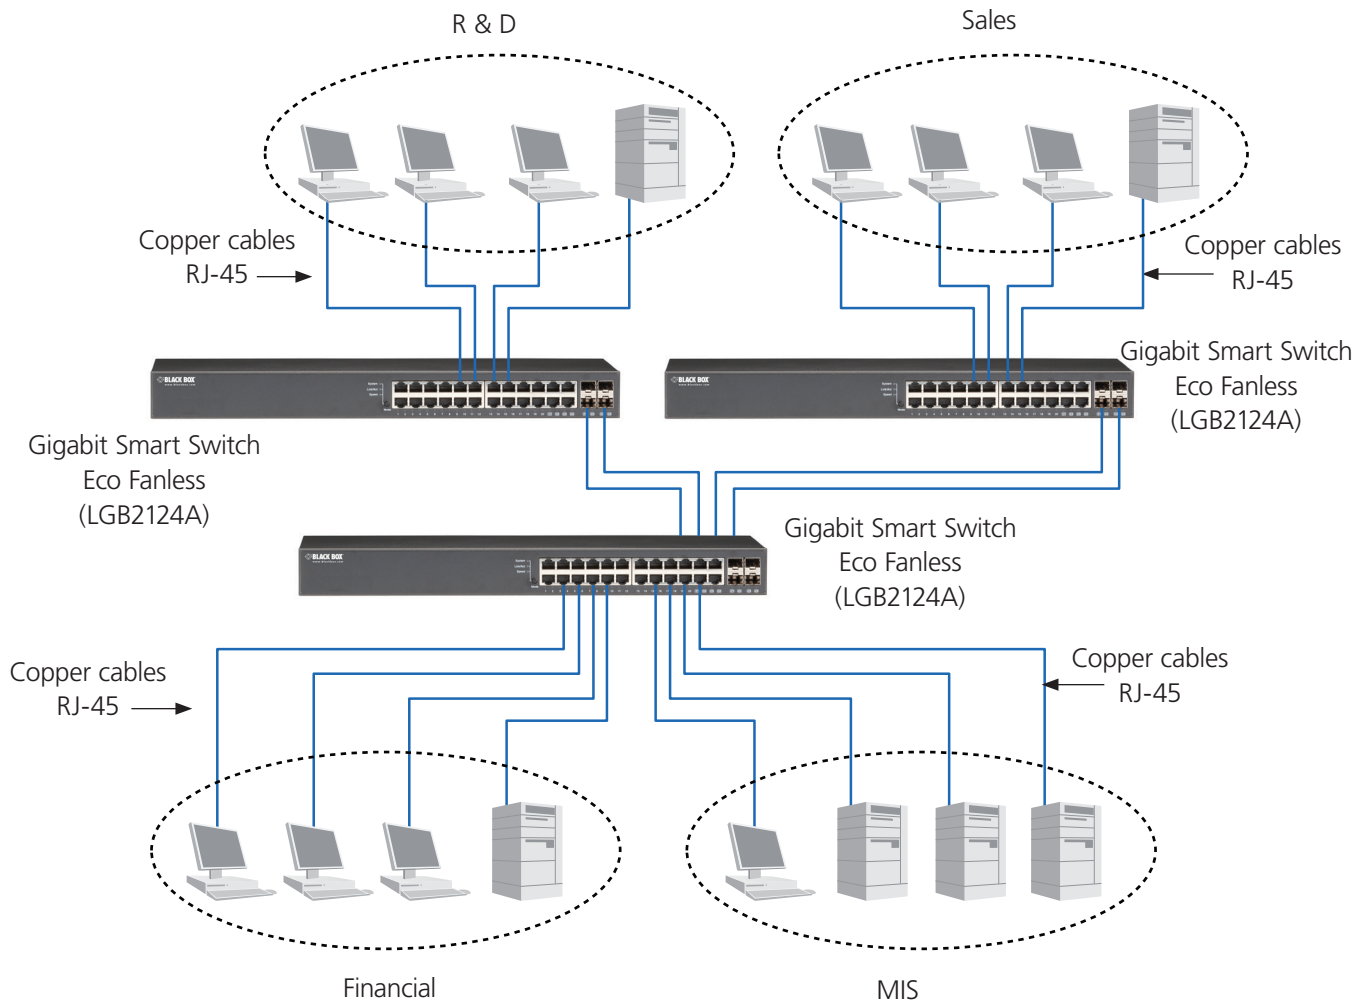

Figure 3-16. Office network connection.
- Office network (see Figure 3-16).